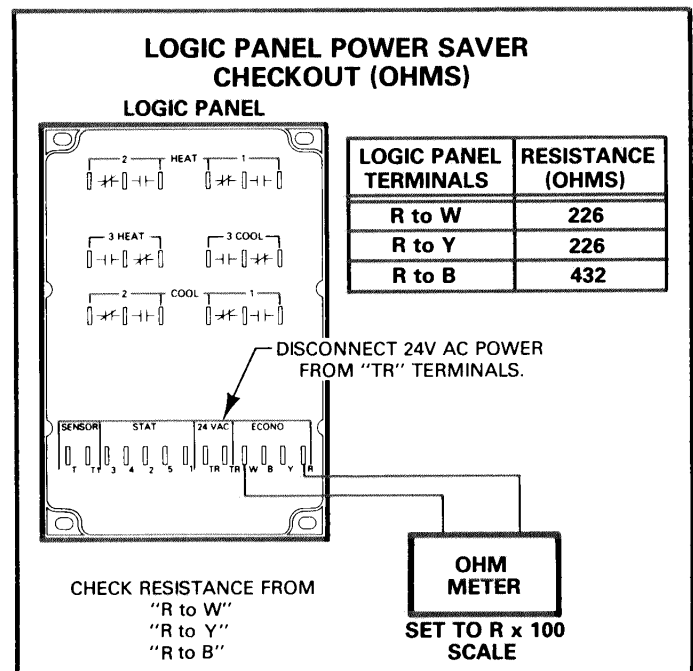

FIGURE 30
- 2 - Using an ohm meter make the resistance measurements called out in Figure 30.